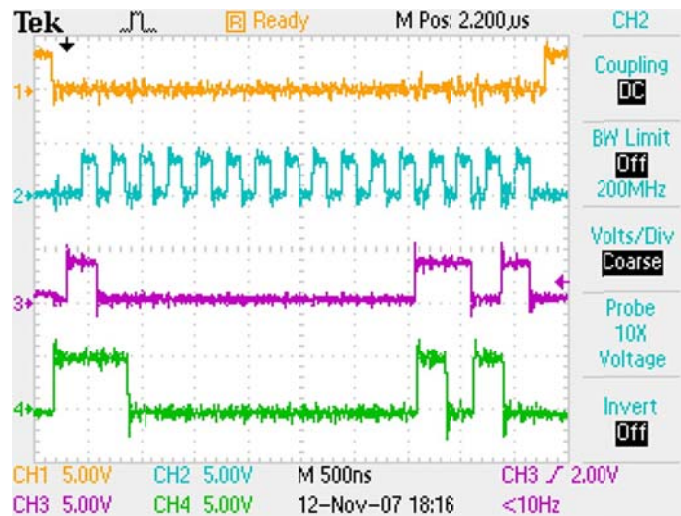

Figure 2 SPI Interface Traces of the MAX3110E
Figure 2 above shows a basic 16-bit data exchange between the iPac-9302 master-host and the MAX3110 client device. The orange signal (1) is the chip select. The aqua signal (2) is the clock. The purple signal (3) is the SSPTX1 (SPI Serial Output) data to the MAX3110. The green signal (4) is the SSPRX1 (SPI Serial Input) data, which is data sent back from the MAX3110. The MAX3110's SPI interface can run at the maximum SPI clock frequency of the iPac-9302, which is 4MHz.